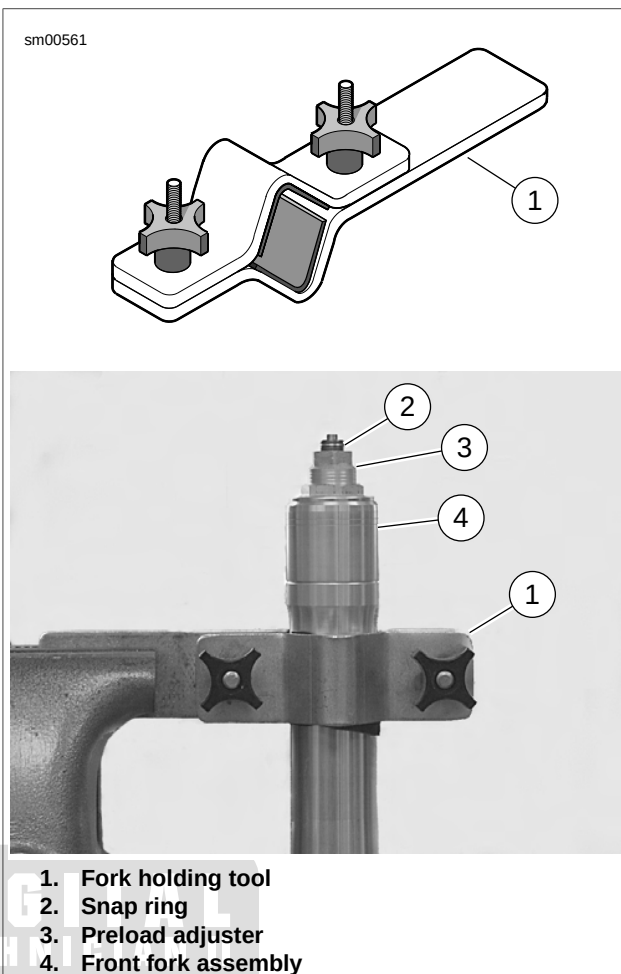

Figure 2-74. Fork Holding Tool
2. See Figure 2-74. Clamp the FORK HOLDING TOOL (Part No. HD-41177) in a vise and install the upper part of the front fork in the holding tool.
3. Remove snap ring (2).